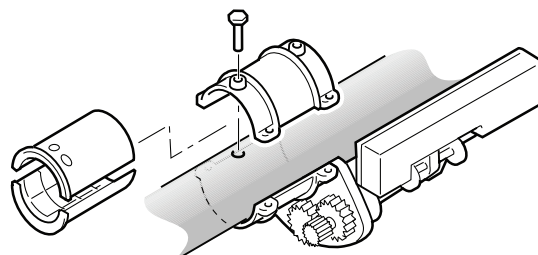
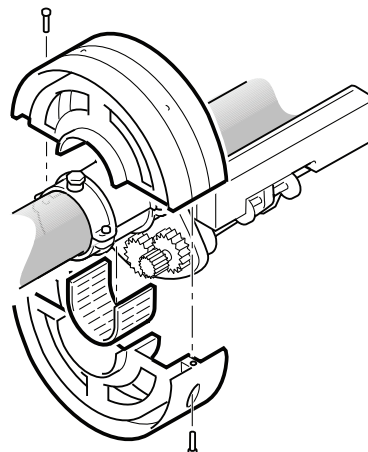

Fig. 3
Fig. 4
- Assemble the two half-crowns using the two M8 screws (fig. 3). Use the M10 hexagonal-head screw to fix the motor on the shaft and tighten the screw nut (fig. 4).